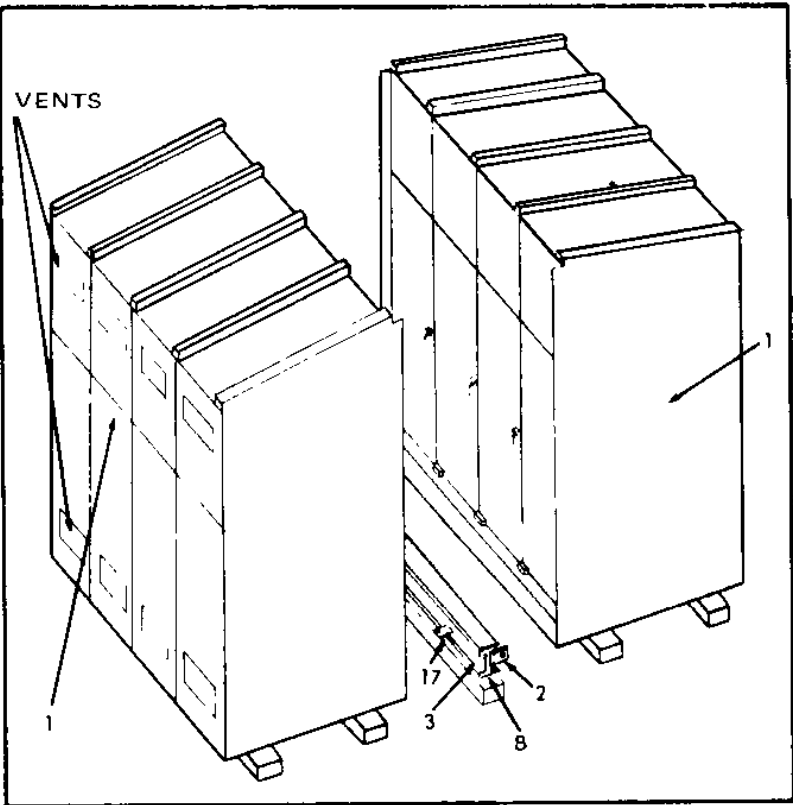
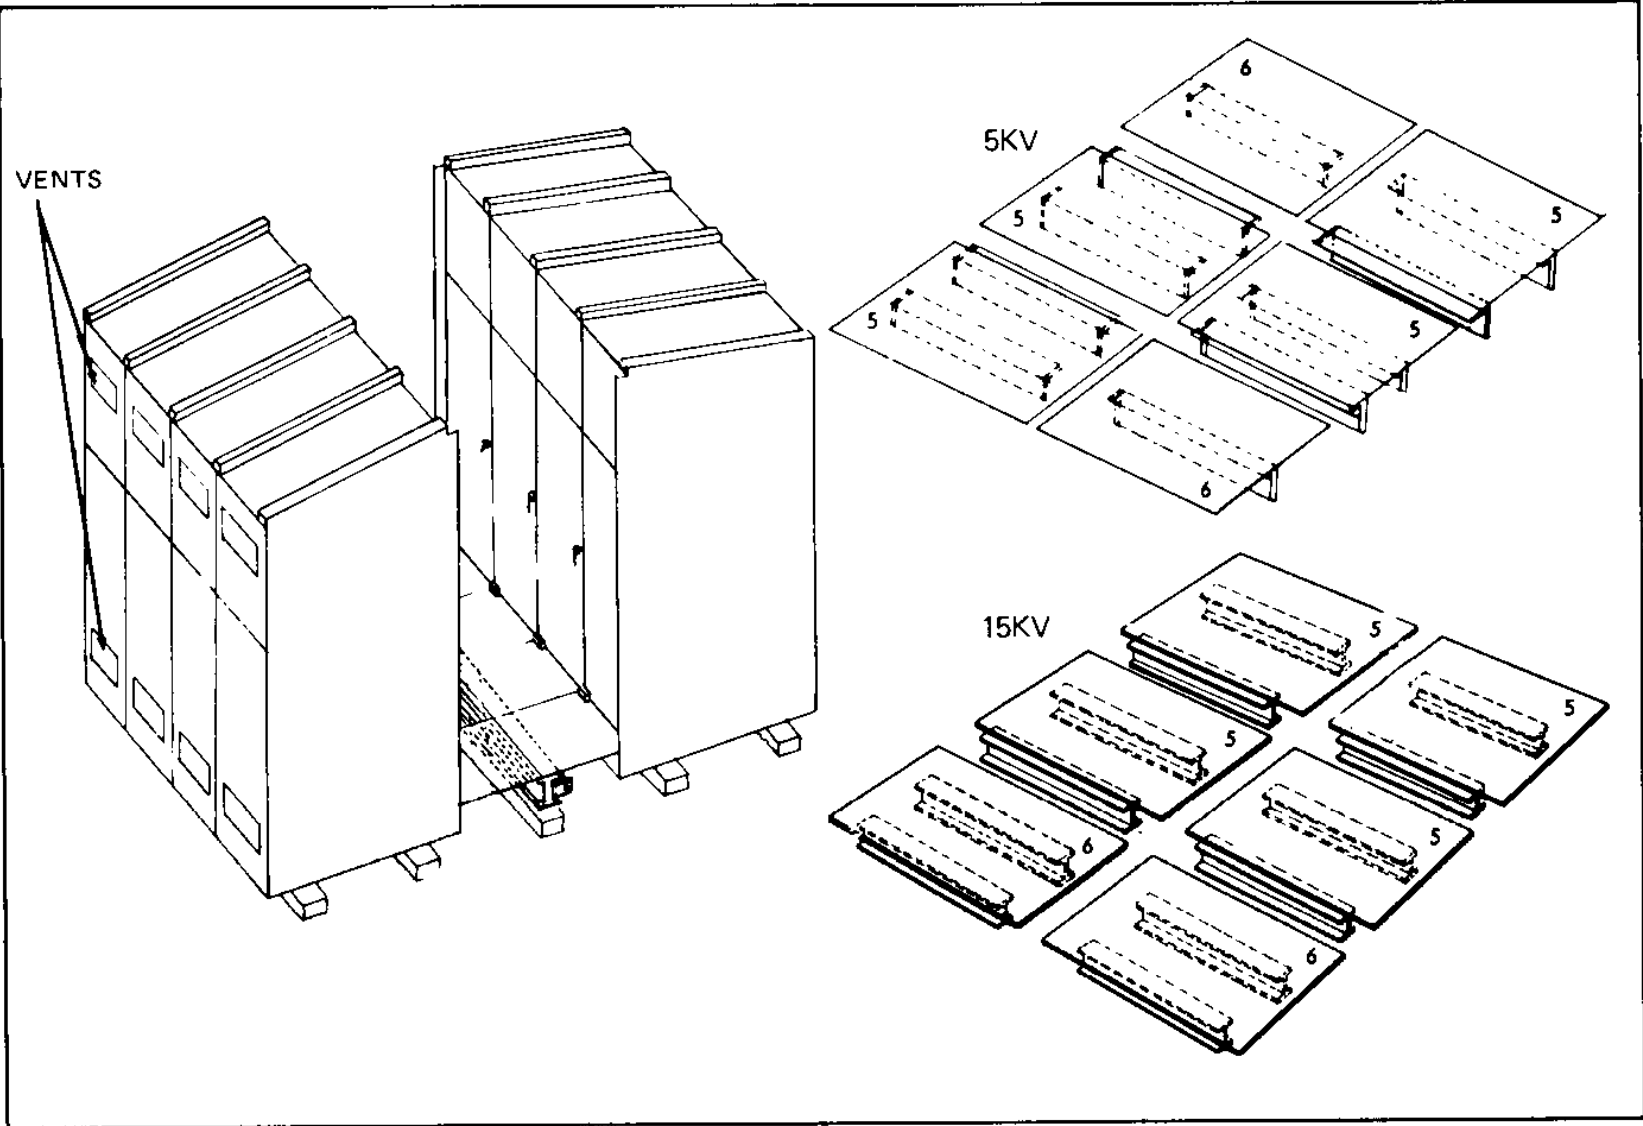

Figure 31. Initial Positioning – Common Aisle Layout
Figure 32. Floor Plate Installation – Common Aisle Layout
1. Place aisle beam (3) in position "B" and secure with anchor bolts. (See Figure 31).
2. Attach angle (2) to ends of aisle beam (3) as shown.
3. See Figure 32. Install all floor plates using 5 kv or 15 kv pattern shown. Each plate overlaps the supporting member of the next plate; determine sequence of installation. Place each set of floor plates to equalize the space between the floor plates and prevent a wide crack at end of group.